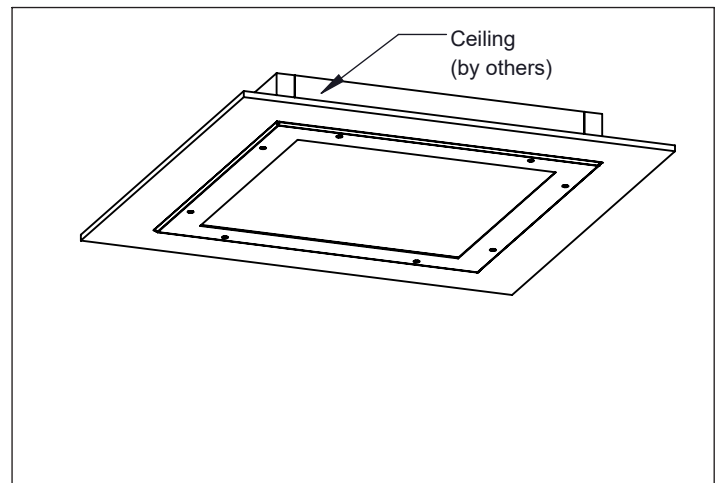

Figure 4
4. AGF unit install completed. (Fig. 4)